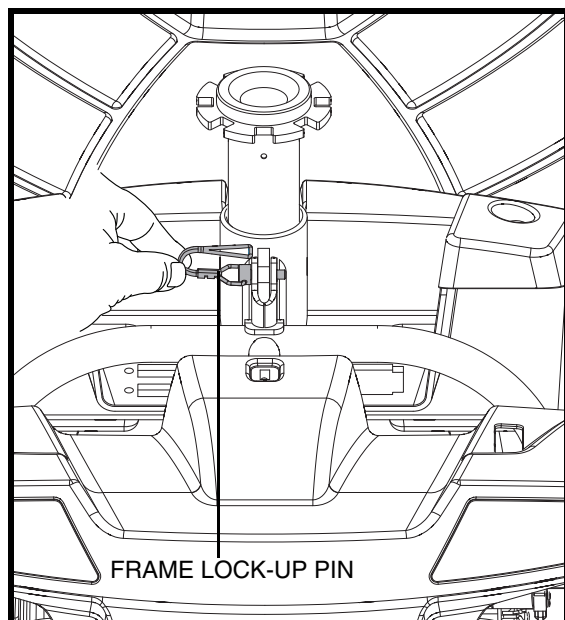

Figure 25. Frame Lock-Up Pin
2. Remove the frame lock-up pin. **See figure 25.**